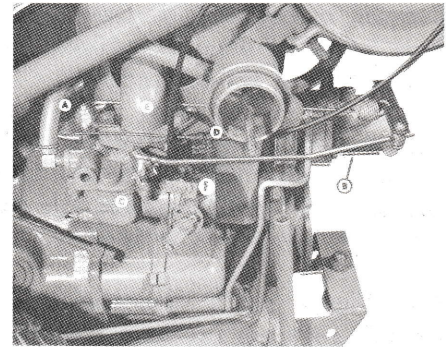
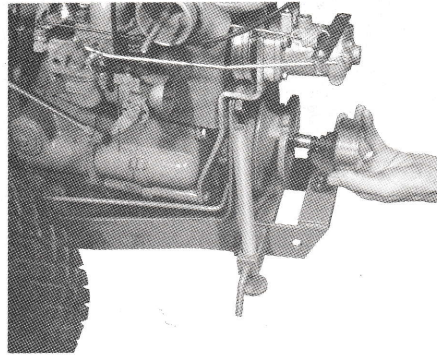

Figure 2
Figure 3
6. Assemble the governor control arm and bracket (A-Figure 2) as shown using the hex head bolt and locknut. Remove hex head bolt from carburetor-manifold assembly. (See Figure 2). Mount the governor control bracket and arm on the manifold using the same bolt taken from the carburetor-manifold assembly. The governor control arm should move easily with light pressure; adjust tension with the pivot bolt and nut.
7. Remove the hex head bolt from the carburetor-manifold assembly. (See Figure 2). Mount the manual choke bracket (F-Figure 3) on the manifold using the bolt just removed.
8. Insert the governor control link (D-Figure 2) into the hole in the governor control arm, extending it toward the governor lever.
9. Mount bellcrank (C-Figure 2), furnished with the governor kit, to the carburetor, discarding the old bellcrank. Mount so that there is an equal amount of travel between a vertical line and wide open and a vertical center line and closed.
10. Hold the bellcrank in the wide open position and the governor lever at its stop toward the tractor. Fit the throttle linkage rod (B-Fig 2) from bellcrank to the end of the governor lever. In every case the rod must fit freely and firmly in place without binding or strain.
12. Install throttle wire in the governor control arm. With the throttle lever in the closed position and the bellcrank (C-Figure 2) in the forward most position, secure the throttle control cable to the manual choke bracket.
14. (See Figure 3). A tachometer is necessary to set the governor properly. With the tachometer in place on the crankshaft, open the throttle. Engine should be between 2600 to 2800 rpm full throttle no load. Adjust cable in clip so that the